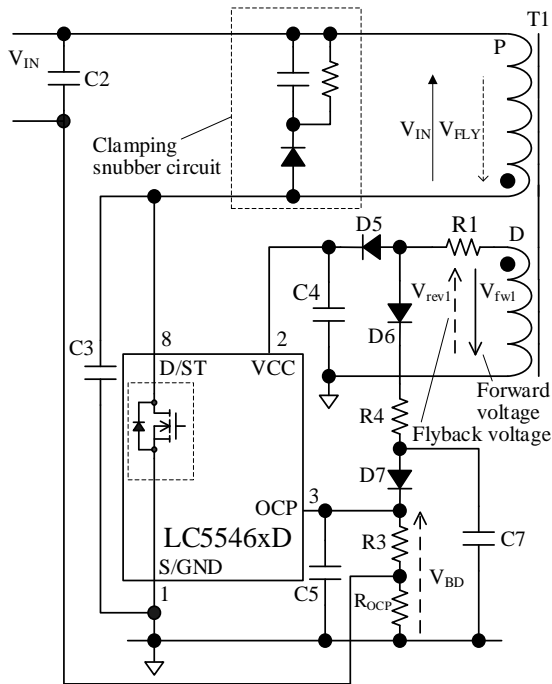
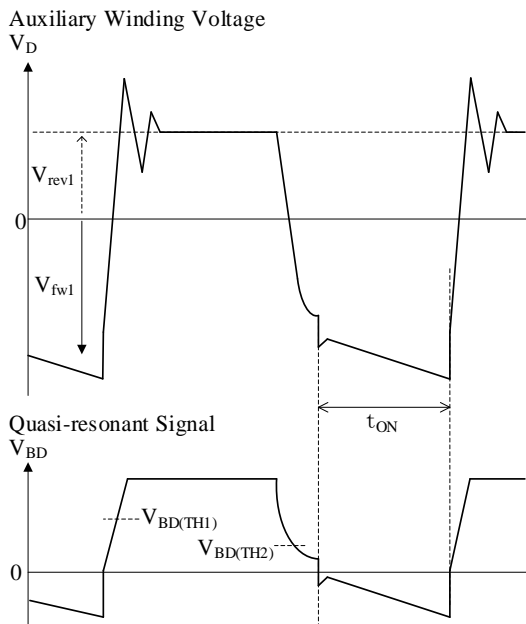

Figure 9-14. OCP Pin Peripheral Circuit
Figure 9-15. Auxiliary Winding Voltage
Figure 9-14 shows an OCP pin peripheral circuit, Figure 9-15 shows the waveform of an auxiliary winding voltage. The OCP pin detects the auxiliary winding voltage, which is synchronized with the V_{DS} waveform, through a delay circuit (D6, R4, C7, and D7 in Figure 9-14). The bottom-on operation is controlled by the delayed signal. The delay time, t_{ONDLY} , is the period from when V_{DS} free oscillation starts to when the power MOSFET turns on. The delay time is then adjusted by the delay circuit. During the power MOSFET turn-off, the positive voltage is supplied through the delay circuit to the OCP pin from auxiliary winding. This input signal to the OCP pin is defined as a quasi-resonant signal, V_{BD} .
- Add C5 of Figure 9-14 near the IC with minimizing a trace length between the OCP and S/GND pins.